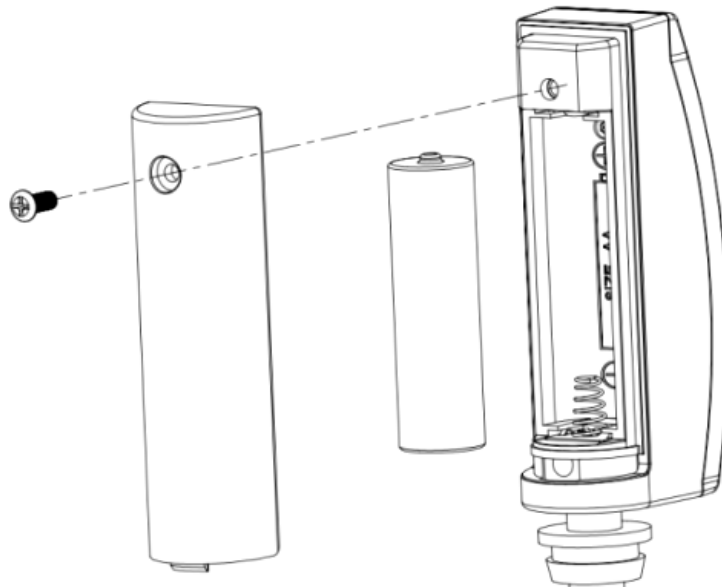

Figure 2: Inserting the battery
1. remove the battery compartment on the back of the transmitter by removing the screw (see figure 2):